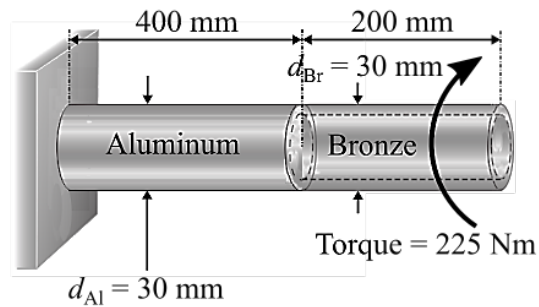

Figure 4(c) / Rajah 4(c)
- CLO2 (c) Figure 4(c) depicts aluminum rods with a diameter of 30 mm and a length of 400 mm connected in series to a bronze pipe. The bronze pipe has an outer diameter of 30 mm, a length of 200 mm, and carries a torsional load of 225 Nm. It is known that the angle of twist for the bronze pipe is double then the angle of twice for aluminum rod. Determine: